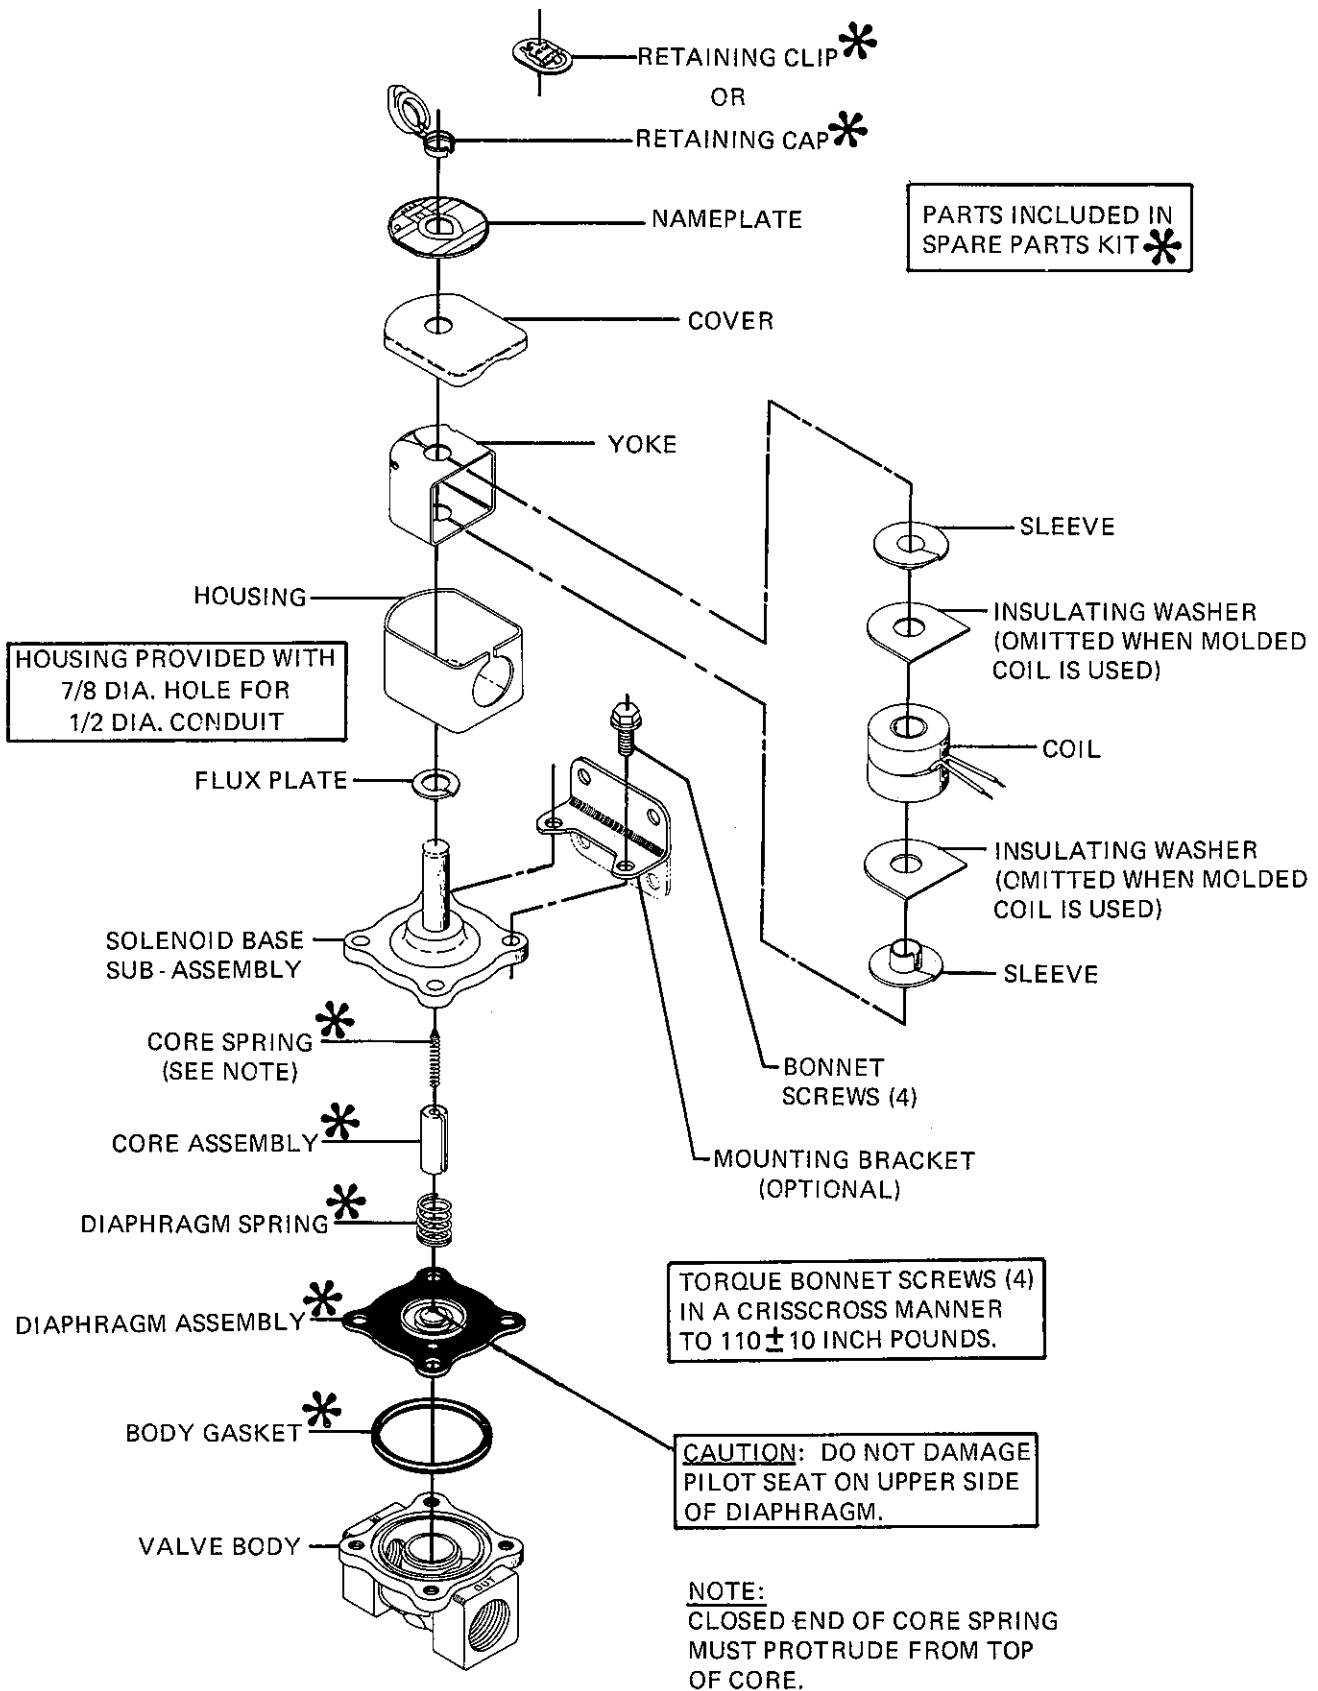
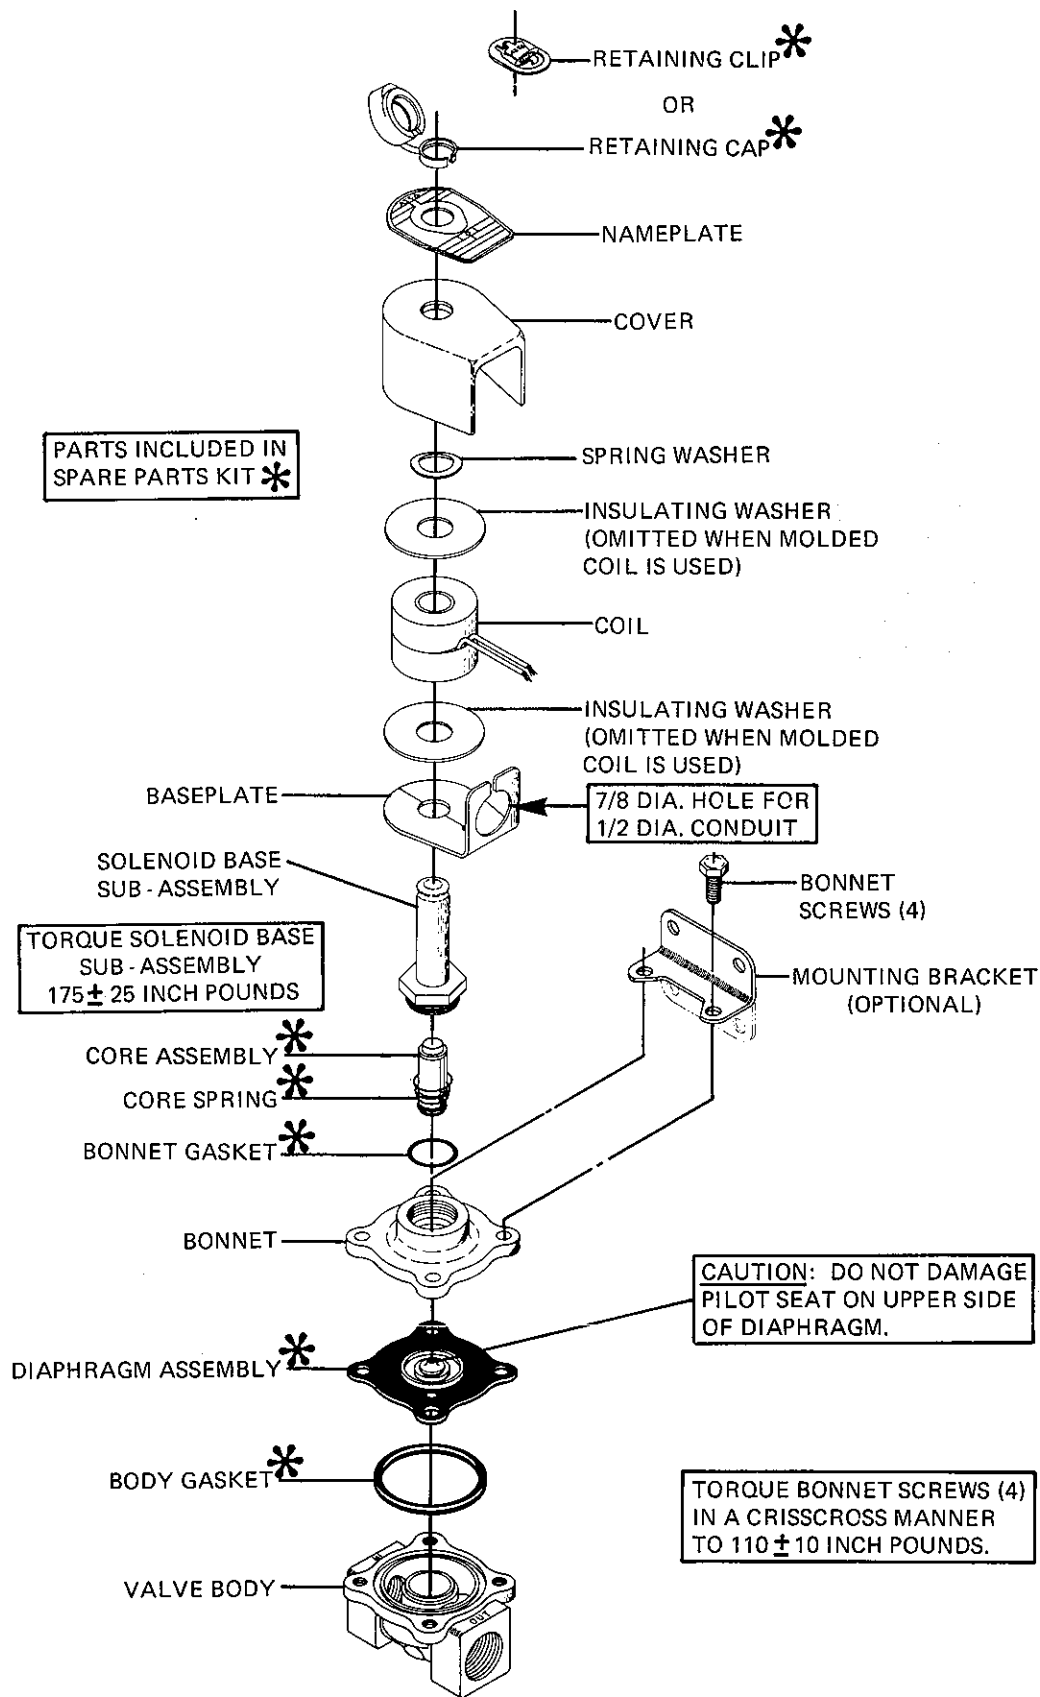

Figure 2.
Figure 3.
2. **A-C CONSTRUCTION** (Refer to Figure 2)
- A. Remove bonnet screws (4) and lift solenoid base sub-assembly off valve body.
- B. Remove core spring, core assembly and diaphragm spring.**D-C CONSTRUCTION** (Refer to Figure 3)
- B. Remove bonnet screws (4) and lift bonnet off valve body.